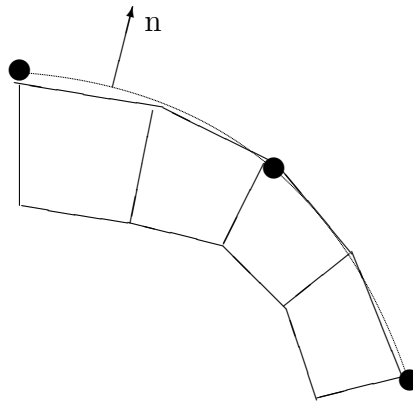

Figure 5.7: Two-Dimensional Surface Loading
*FEAPpv* will search for all nodes which are closer to the interpolation patch than **GAP** (default is  $10^{-3}$ ). Using the element boundary segments which have outward normals to the patch (by right hand coordinate rule as shown for a two-dimensional problem in Figure 5.7) will be located and the values interpolated to nodes. For tractions the equivalent nodal loads will be computed. In two dimensions it is not necessary for the interpolation patch to exactly match the element boundary segments.